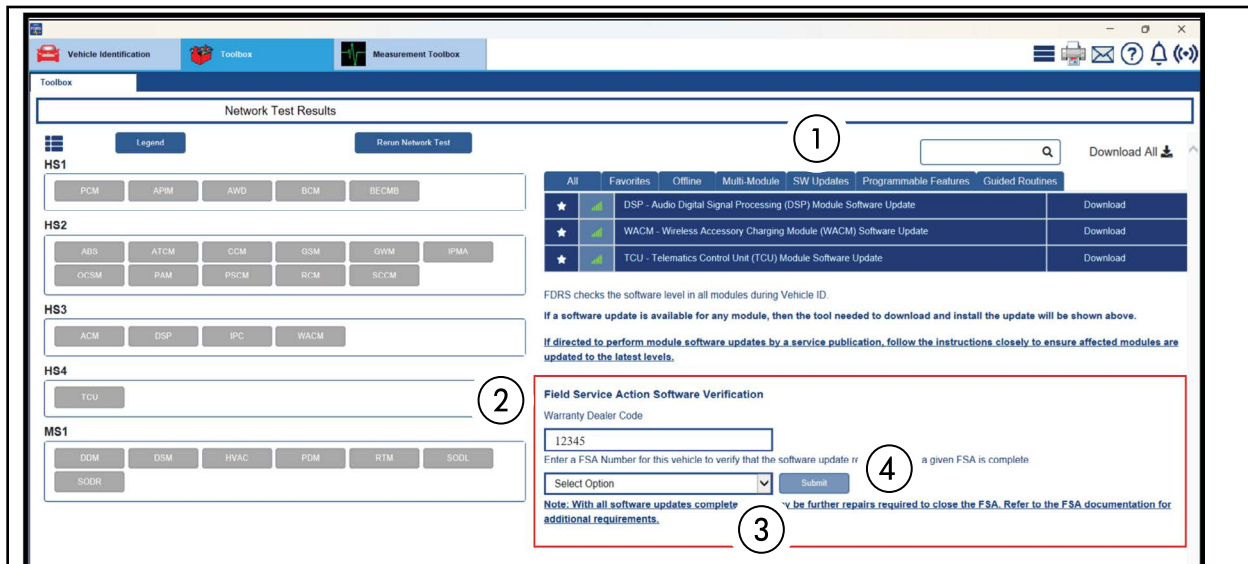

FIGURE 6
15. Select the **SW Updates** tab (1). See Figure 6.
16. **Warranty Dealer Code** (2) - Change the displayed PA code as necessary. See Figure 6.
17. Select the **FSA** (3) from the drop-down menu. See Figure 6.
18. Select **Submit** (4). See Figure 6.